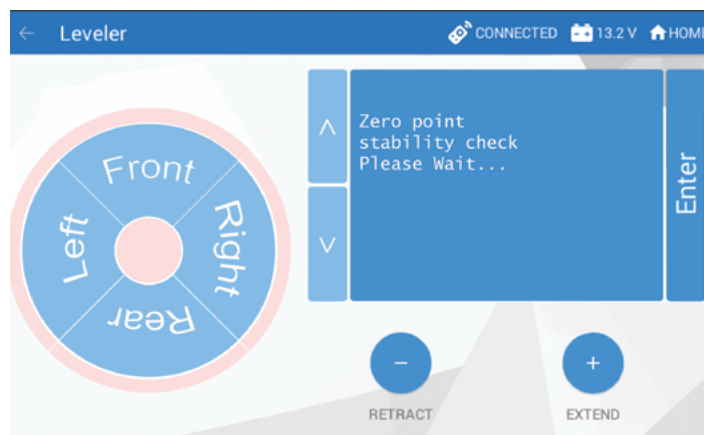
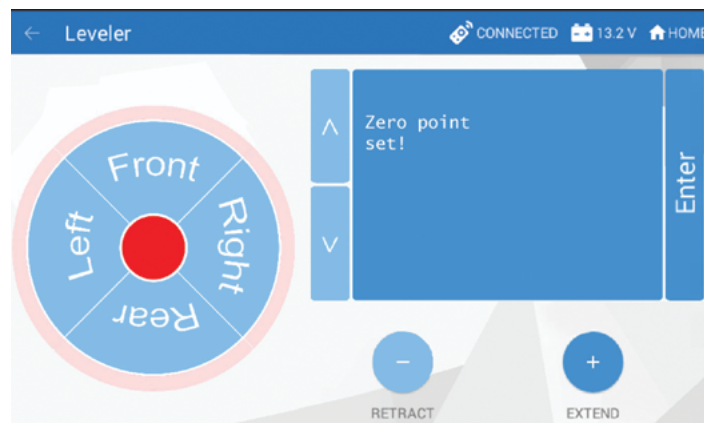

Fig.53
Fig.54
7. Screen will show “Zero Point Stability Check ... Please Wait” (**Fig.53**), followed by “Zero Point Set” (**Fig.54**).